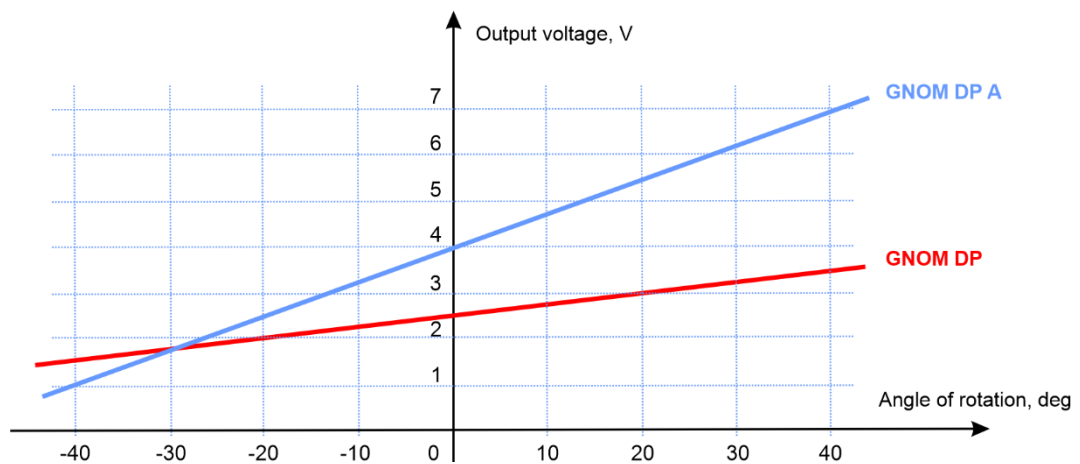

Figure 11 — Graphs of dependence of GNOM DP A / GNOM DP output voltage on the sensor pivot lever shift angle
1) **GNOM DP A / GNOM DP output signal value** is linearly dependent on lever rotation angle value (see figure 11).